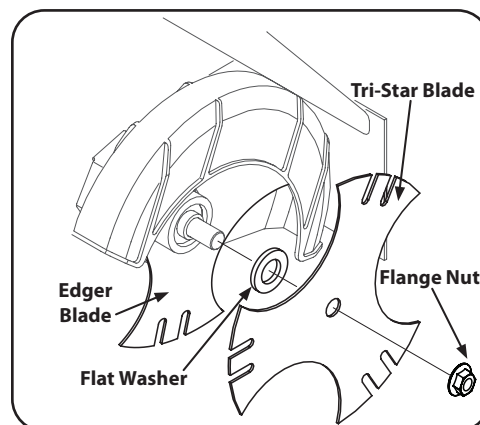

Figure 3-6
1. Use two wrenches (one wrench to prevent the hex bolt head from spinning and the other to remove the flange nut) to remove the flange nut that secures the edger blade, leaving the edger blade in place. See Figure 3-6.
2. Install the additional edger blade and flat washer supplied with your machine. See Figure 3-6.